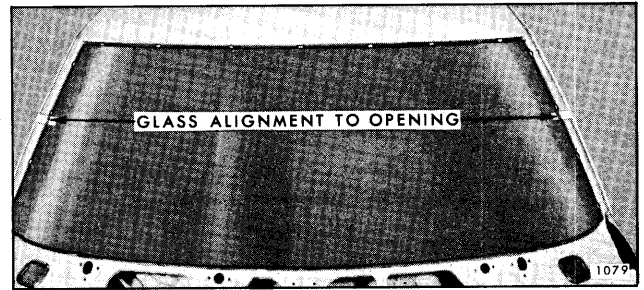

Fig. 4-4—Typical Glass Alignment
3. When glass is in proper position in the opening, apply a piece of masking tape over each side edge of glass and adjacent body pillar (Fig. 4-4). Slit tape vertically at edge of glass. During installation, tape on glass can be aligned with tape on body to guide window into desired position.
masking tape over edges of glass and body (Fig. 4-4 or 4-8, depending on window being installed). Tape on glass can be aligned with tape on body to guide glass into opening during installation.